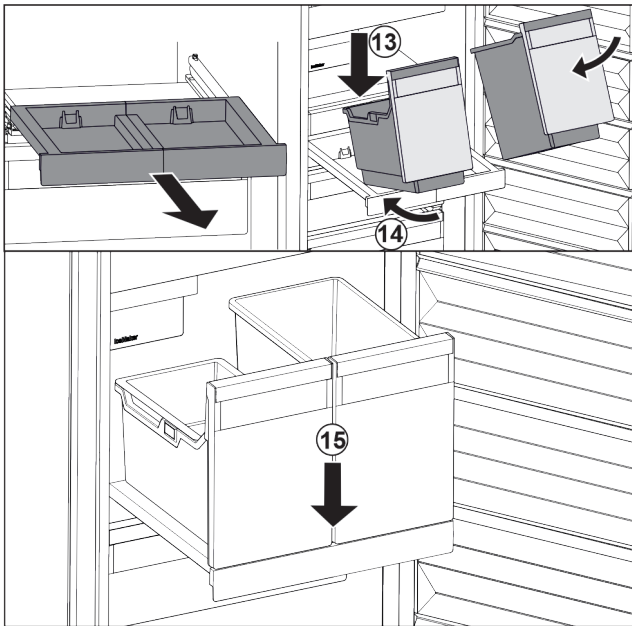

Fig. 86
- ▶ Place the container at an angle on the pull-out board. Fig. 86 (13)
- ▶ Slide the container to the back at an angle. Fig. 86 (14)
- ▶ Place container in the front. Fig. 86 (15)